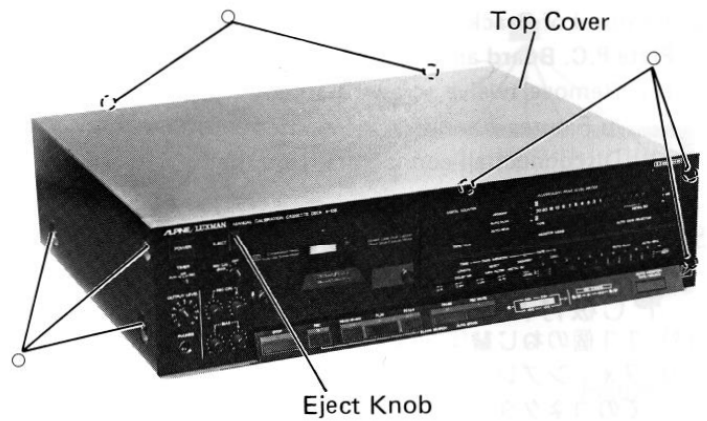

Figure 3
- (1) Remove eight screws marked "○" as shown in Figure 3.
- (2) Remove the top cover backward.
- (1) Push the eject knob to open the cassette door and remove the cassette door assembly upward as shown in Figure 3.